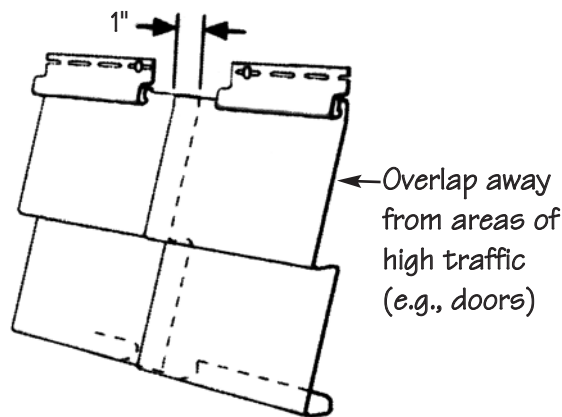

Figure 37.
- When panels overlap, make sure they overlap by one half the length of the notch at the end of the panel, or approximately 1" (Fig. 37).
- Always overlap joints away from entrances and away from the point of greatest traffic. This will improve the overall appearance of the installation (Fig. 37).